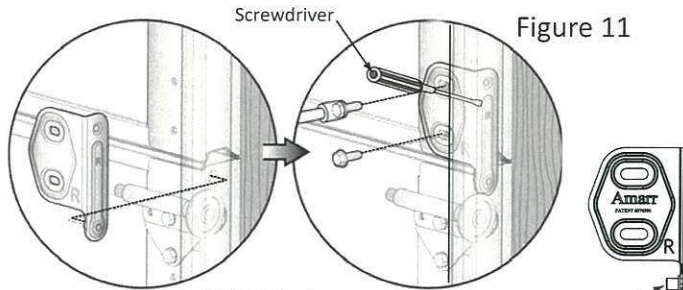
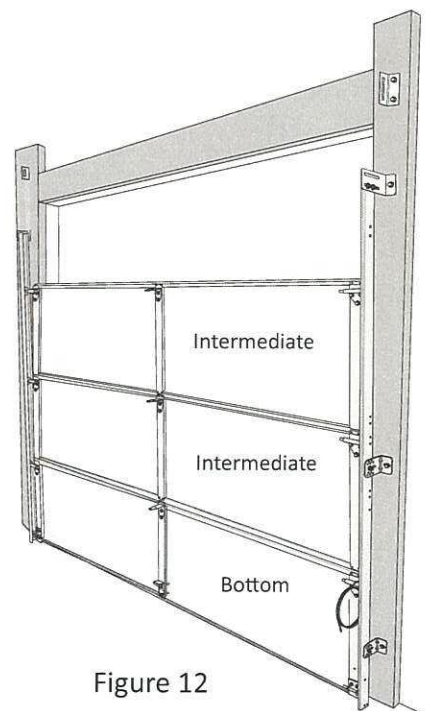

Figure 11
Figure 12
Fit the End Hinges between the track and the section. Align the End Hinge studs with the extruded holes in the edge of the end stiles and insert. Secure the hinge with (2) 1/4"x5/8" Universal Screws (Figure 11). Use holes 19 & 23 for single and double layer doors. Use holes 14 & 18 for triple layer doors.
Note: Firmly hold the End Hinges in place with a screwdriver between the track and the hinge, as you tighten the screws (Figure 11).
Note: Repeat steps 17-20 for each intermediate section required (Figure 12).
Fit the End Hinges between the track and the section. Align the End Hinge studs with the extruded holes in the edge of the end stiles and insert. Secure the hinge with (2) 1/4"x5/8" Universal Screws (Page 4, Step 19, Figure 11). Use holes 19 & 23 for single and double layer doors. Use holes 14 & 18 for triple layer doors.
Step 11: Attach the Cable Adjustment Clip to the "S" Hook (Fig 11). Be sure to pull out all of the slack in the cable at the Cable Adjustment Clip so the Extension Spring hangs near horizontally (Fig 13). Loop any additional cable to keep it out of the way (Fig 12)
Step 12: Tie the remaining Safety Retention Cable(s) through a hole in the Horizontal Angle between the "S" hook and the jamb (Fig 12). Loop any additional cable to keep it out of the way (Fig 12).